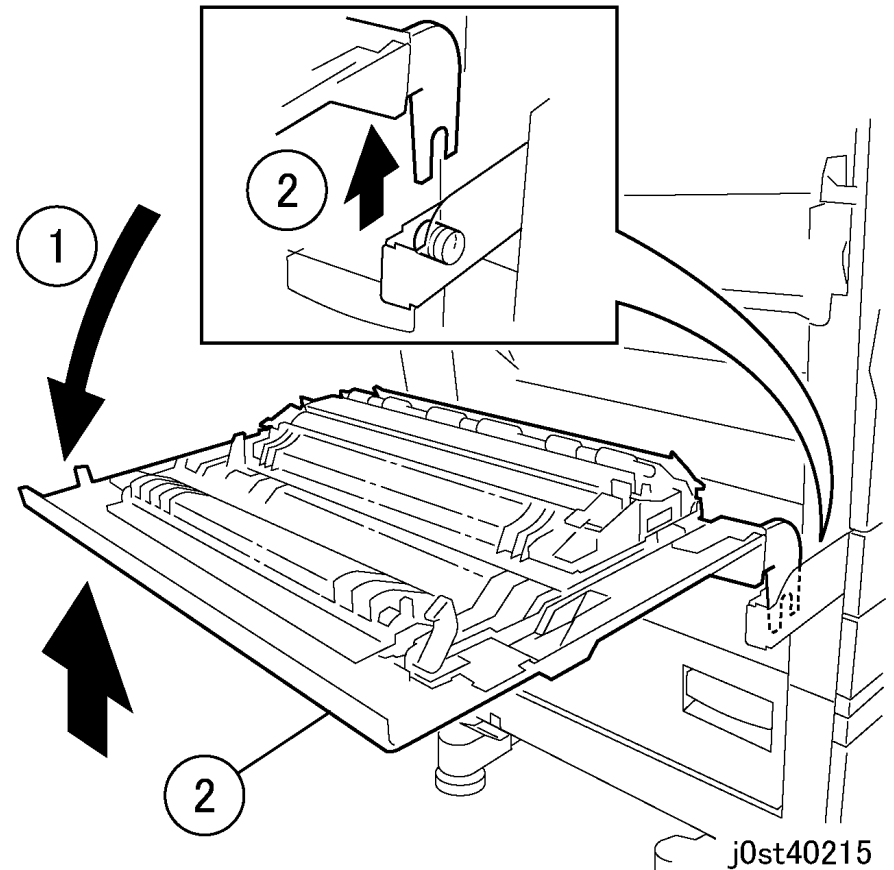

Figure 2 Removing the L/H Upper Cover Unit (j0st40215)
3. Remove the L/H Upper Cover Unit. (Figure 2)